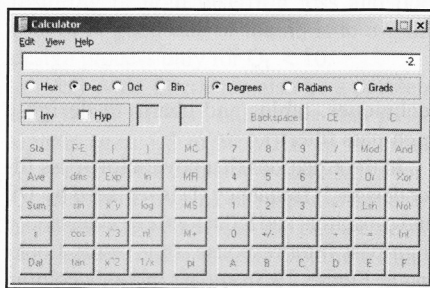

Figure 1 — The *Windows Scientific Calculator* ready to calculate the effect of a 2 dB cable loss.
On first opening, you may find a four-function grocery store type calculator. Have no fear, just click on VIEW then SCIENTIFIC to get the one you want. It should look about like Figure 1.
- Click on the +/- key; the display should show -2, as in Figure 1.